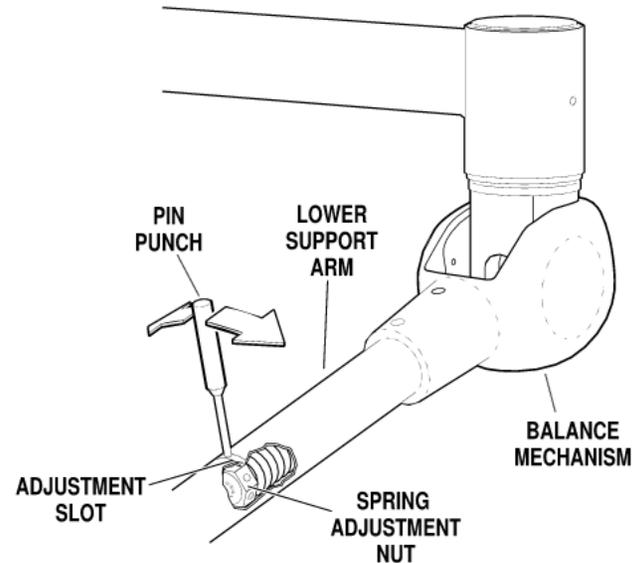

**Figure 3-3. Lighthead Roll Adjustment**
1. Locate the adjustment hole in the bottom of the support arm collar. See figure 3-3.